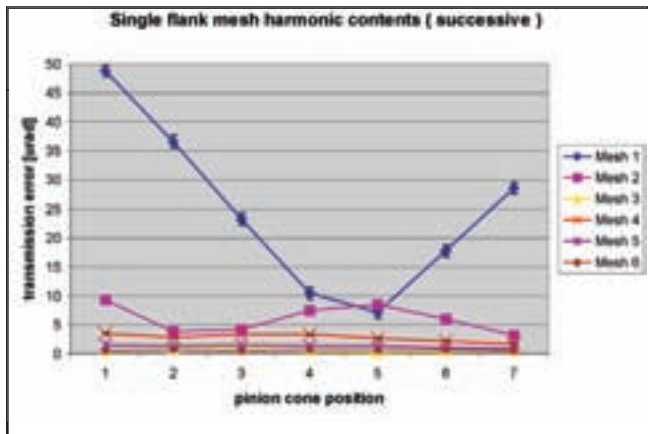

Figure 15—Mesh harmonic contents of single-flank transmission error; successive checks.
**Single-flank checking results, successive.** Evaluating the single-flank transmission error in successive mode, a result, as displayed in Figure 15, was obtained. Repeatability reaches an acceptable level for meshes 1–6. The pinion cone position with the highest figure for mesh 1 is position 1 at 49  $\mu\text{rad}$ . The lowest mesh 1 figure is position 5 at 7  $\mu\text{rad}$ . Very similar to the vibration noise evaluation, this difference indicates that by shifting the pinion cone position from position 1 to position 5, the significant amplitude for mesh 1 can be reduced by 86%.
**Single-flank checking results, continuous checking.** The continuous single-flank measurement shows a pattern of harmonic mesh content results identical to that of successive measurement (see Figs. 15 and 17). However, checking time using the continuous method was approximately 65% of that using the successive checking method.